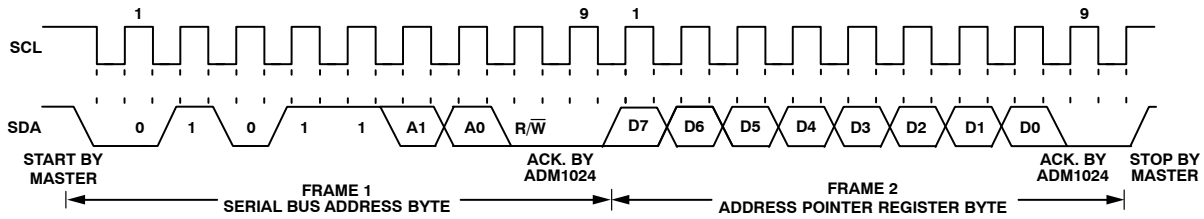

Figure 11. Writing to the Address Pointer Register Only
1. If the ADM1024's Address Pointer Register value is unknown or not the desired value, it is first necessary to set it to the correct value before data can be read from the desired data register. This is done by performing a write to the ADM1024 as before, but only the data byte containing the register address is sent, as data is not to be written to the register. This is shown in Figure 11. A read operation is then performed consisting of
from the corresponding data register without first writing to the Address Pointer Register, so Figure 11 can be omitted.